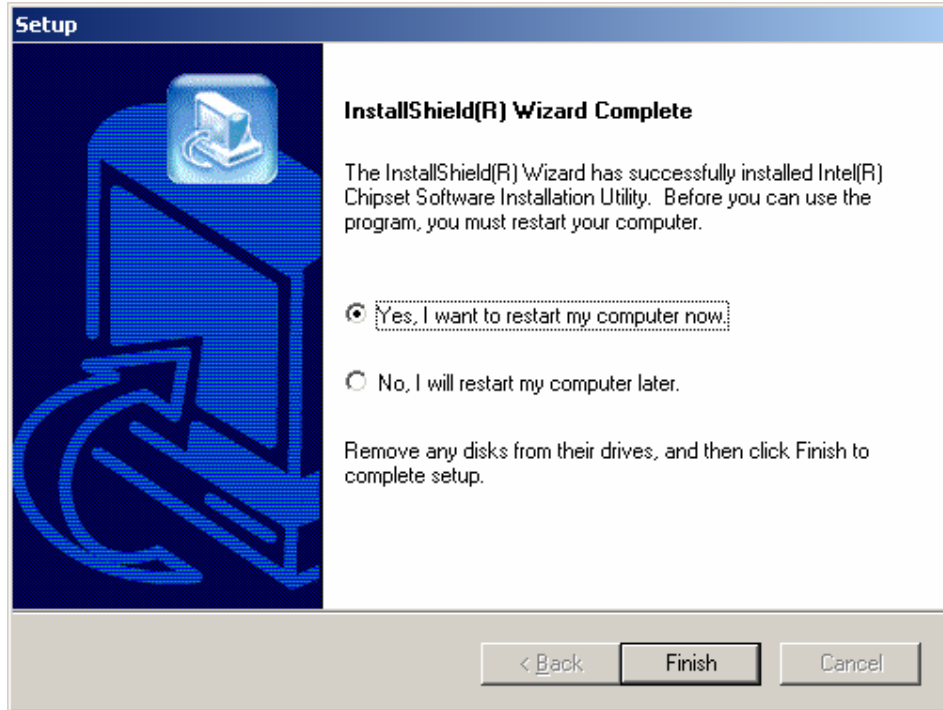

Figure 6-14: Chipset Software Installation Utility Complete
Step 7: After the driver installation process is complete, a confirmation screen appears (Figure 6-14).